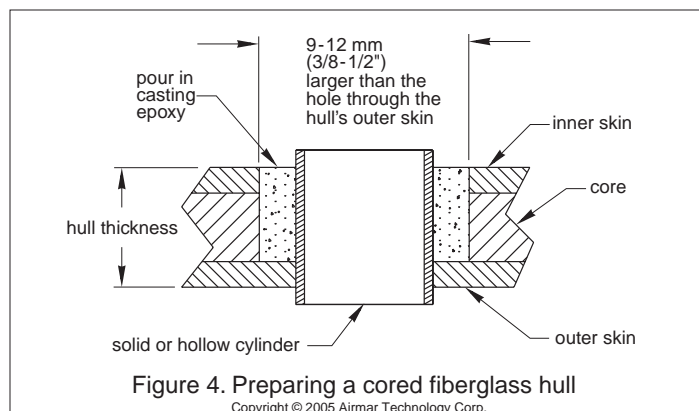

Figure 4. Preparing a cored fiberglass hull
2. Using a 51 mm or 2" hole saw, cut the hole from outside the hull through the *outerskin* only (see Figure 4).